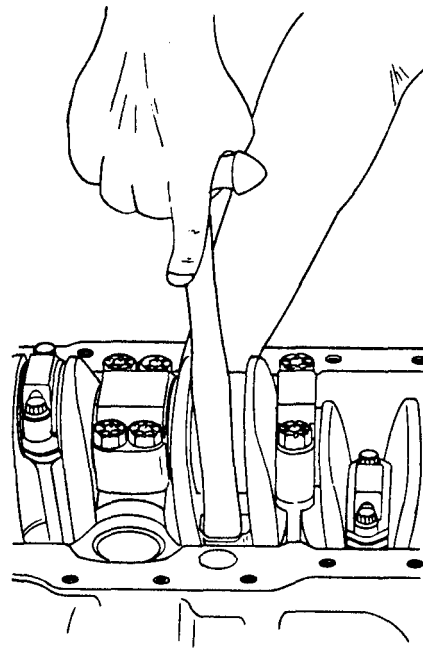

Figure 3-31. Piston and Connecting Rod Removal
- i. Crank engine so that No. 1 piston connecting rod caps (12) can be removed. Remove cap bolts (15), connecting rod cap (12), and lower bearing (14). Be sure to keep connecting rod, cap, and bearings for each piston together. Do not mix parts. With a block of wood or hammer handle, carefully push piston and rod assembly out
through top of cylinder block. See figure 3-31. After connecting rod (11, figure 3-30) and piston (1) are removed, reassemble connecting rod cap (12) and lower bearing (14) to connecting rod (11).
1. Remove piston pin retaining rings (4) and push pin (3) out of piston and piston pin bushing (2).